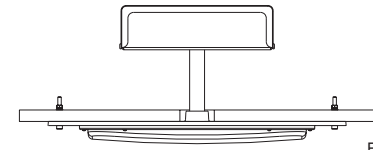

Figure 10
10. Finally, assemble the driver box. (Figure 10)